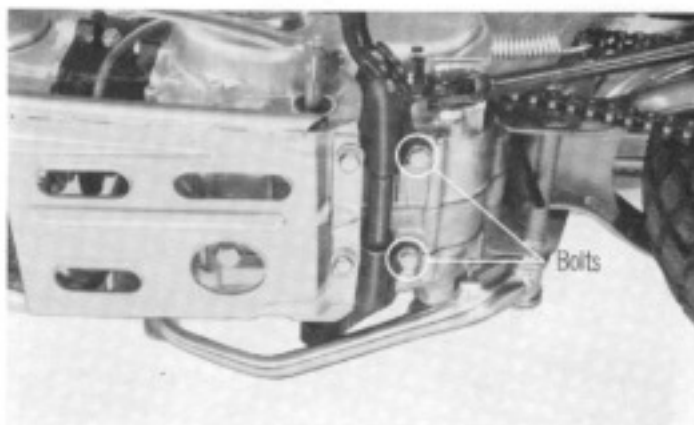

Fig. 93
- (7) Remove the step bar from the crankcase by removing the 8 mm hex. bolts. (Fig. 93).